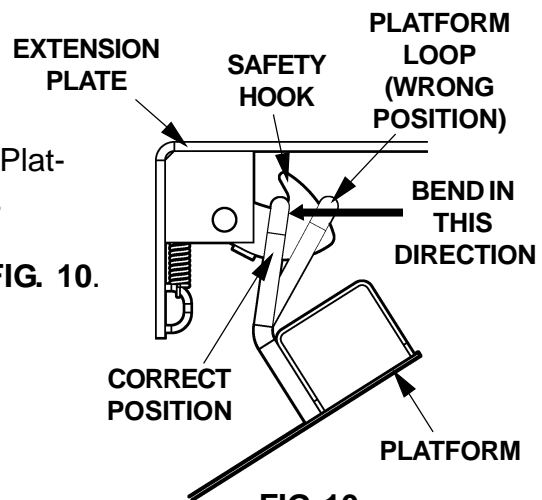

FIG. 10
2. Adjust by bending the Platform Loop as shown in **FIG. 10**.